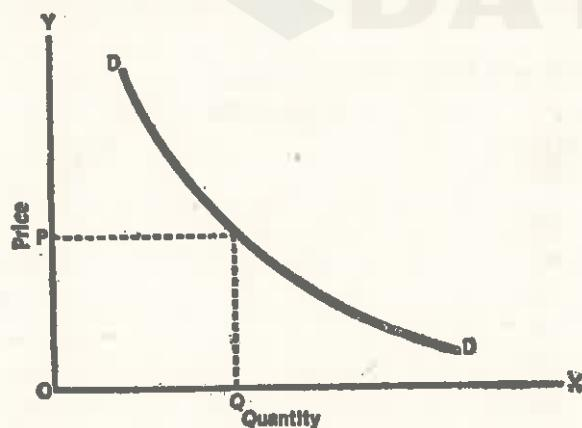

Fig. 35.1. Demand Curve
- Fig. 35.1 shows a Demand Curve. A Demand Curve normally slopes downward from left to right.